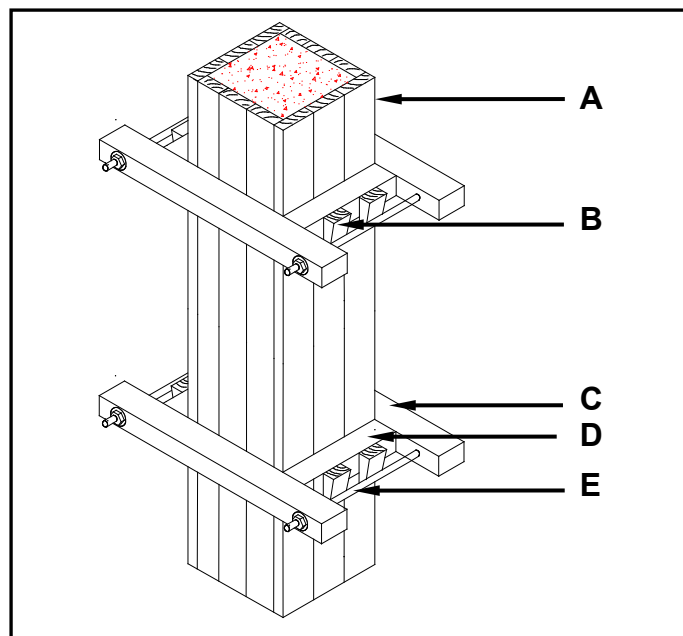

FIGURE 2.9
2.9 FIGURE 2.9 below shows the formwork of a square column. Study the figure and answer the questions that follow.